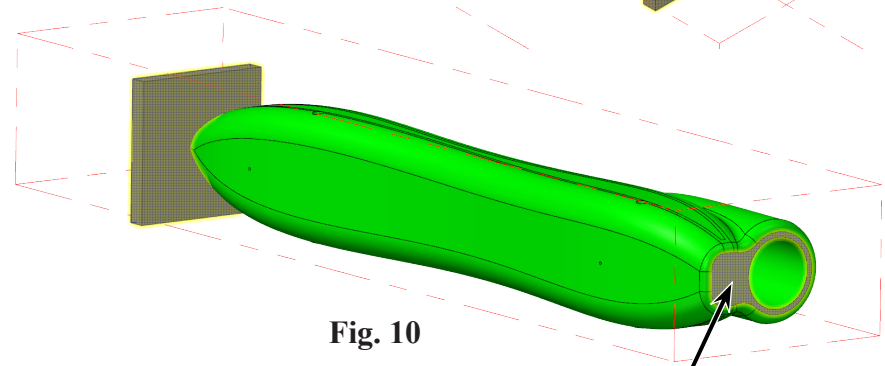

Fig. 10
Step 6. Rotate view to view **rear surface**, hold down middle mouse button (wheel) and drag to rotate view, **Fig. 10.**
Step 7. Click **rear surface** to select as avoidance geometry and click **End Selection** (ENTER), **Fig 10.**